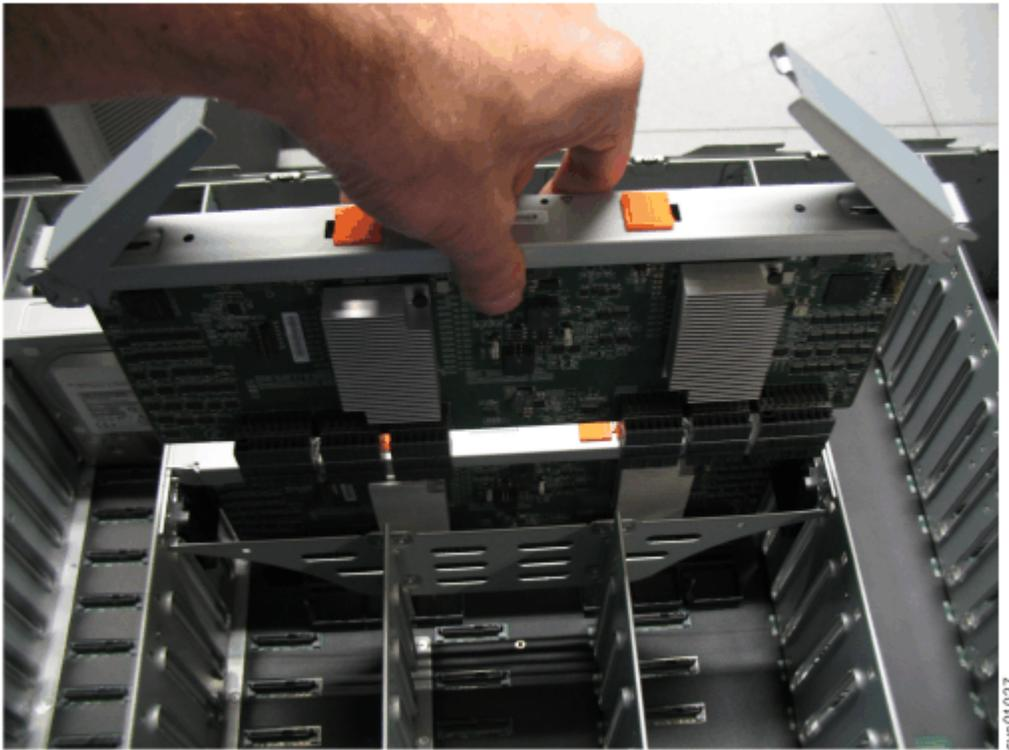

Figure 146. Remove the secondary expander module
4. Lift the secondary expander module carefully out of the enclosure, as shown in Figure 146 on page 205.